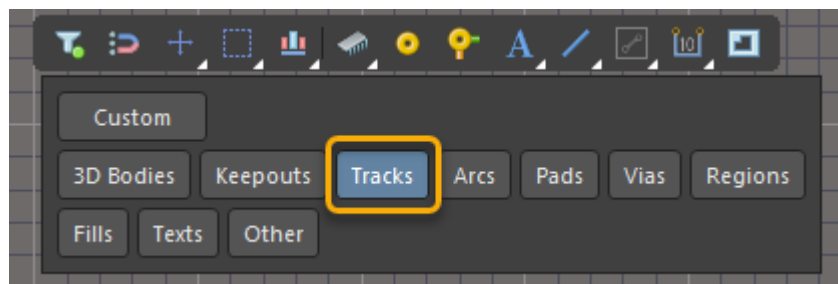

Figure 41. Filter Options
66. Change the selection filter to **Tracks** only, see Figure 41